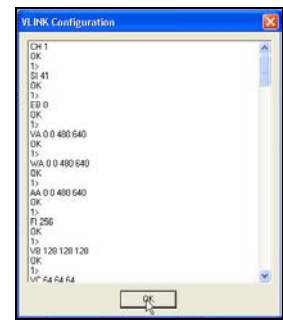

Figure 25: VLink Configuration Window
- f. *VLink Configuration* window will appear. Click **OK**. Refer to **Figure 25**.